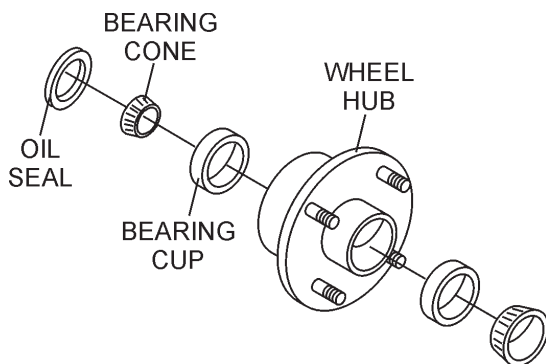

Figure 30. Wheel Hub and Bearings
1. After every 3 months of operation, remove the hub dust cap and inspect the wheel bearings (Figure 30). Once a year, or when required, disassemble the wheel hubs remove the old grease and repack the bearings forcing grease between rollers, cone and cage with a good grade of high speed wheel bearing grease (**never** use grease heavier than 265 A.S.T.M. penetration ("No. 2."))
2. Fill the wheel hub (Figure 30) with grease to the inside diameter of the outer races and also fill the hub grease cap. Reassemble the hub and mount the wheel. Then tighten the adjusting nut, at the same time turn the wheel in both directions, until there is a slight bind to be sure all the bearing surfaces are in contact.